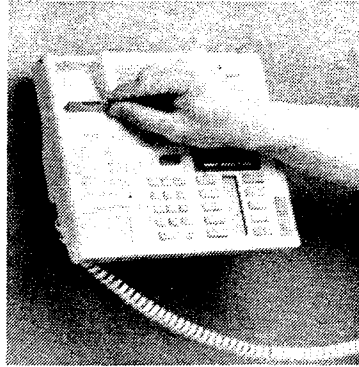

Figure 6.2 - Install receiver clip
2. Remove the receiver clip from the base. Install the clip in the forward lip of the receiver rest as in Figure 6.2.